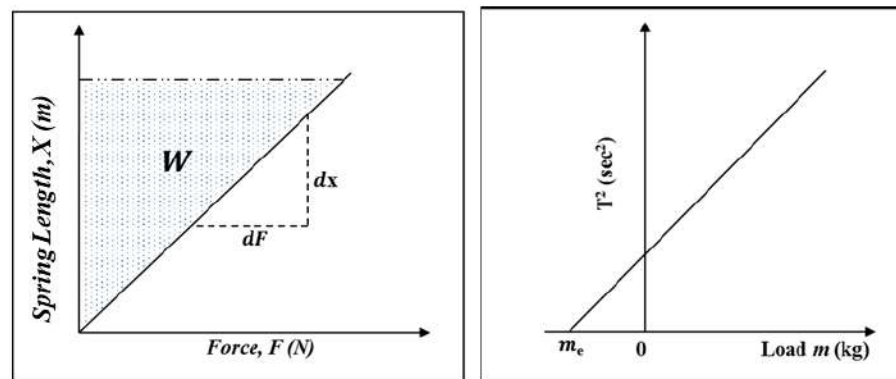

Figure 2: Extension vs Force and T^2 vs load graph for a spring mass system
5. Determine the Force $= mg$ (N) applied for each mass and record it in Table-1.
9. Plot the Force Applied (F) vs. Total Elongation (L), and determine the slope of the line. See Figure 2.
13. Plot another graph with m (abscissa) against T^2 (ordinate) as shown in Figure 2 (right). Find out the effective mass (m_e) by taking the point of intercept of the resulting lines on *horizontal* axis.